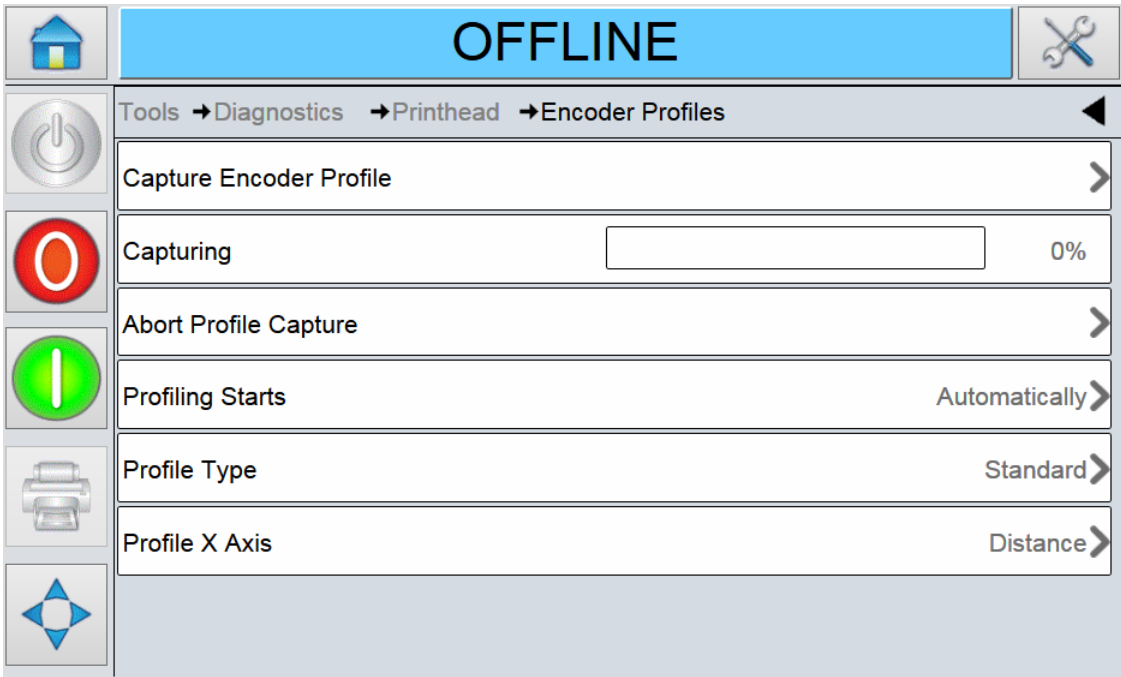

Figure 5-18: Capturing Encoder Profiles Screen
4. Touch  and Capturing Encoder Profile screen appears (Figure 5-18).